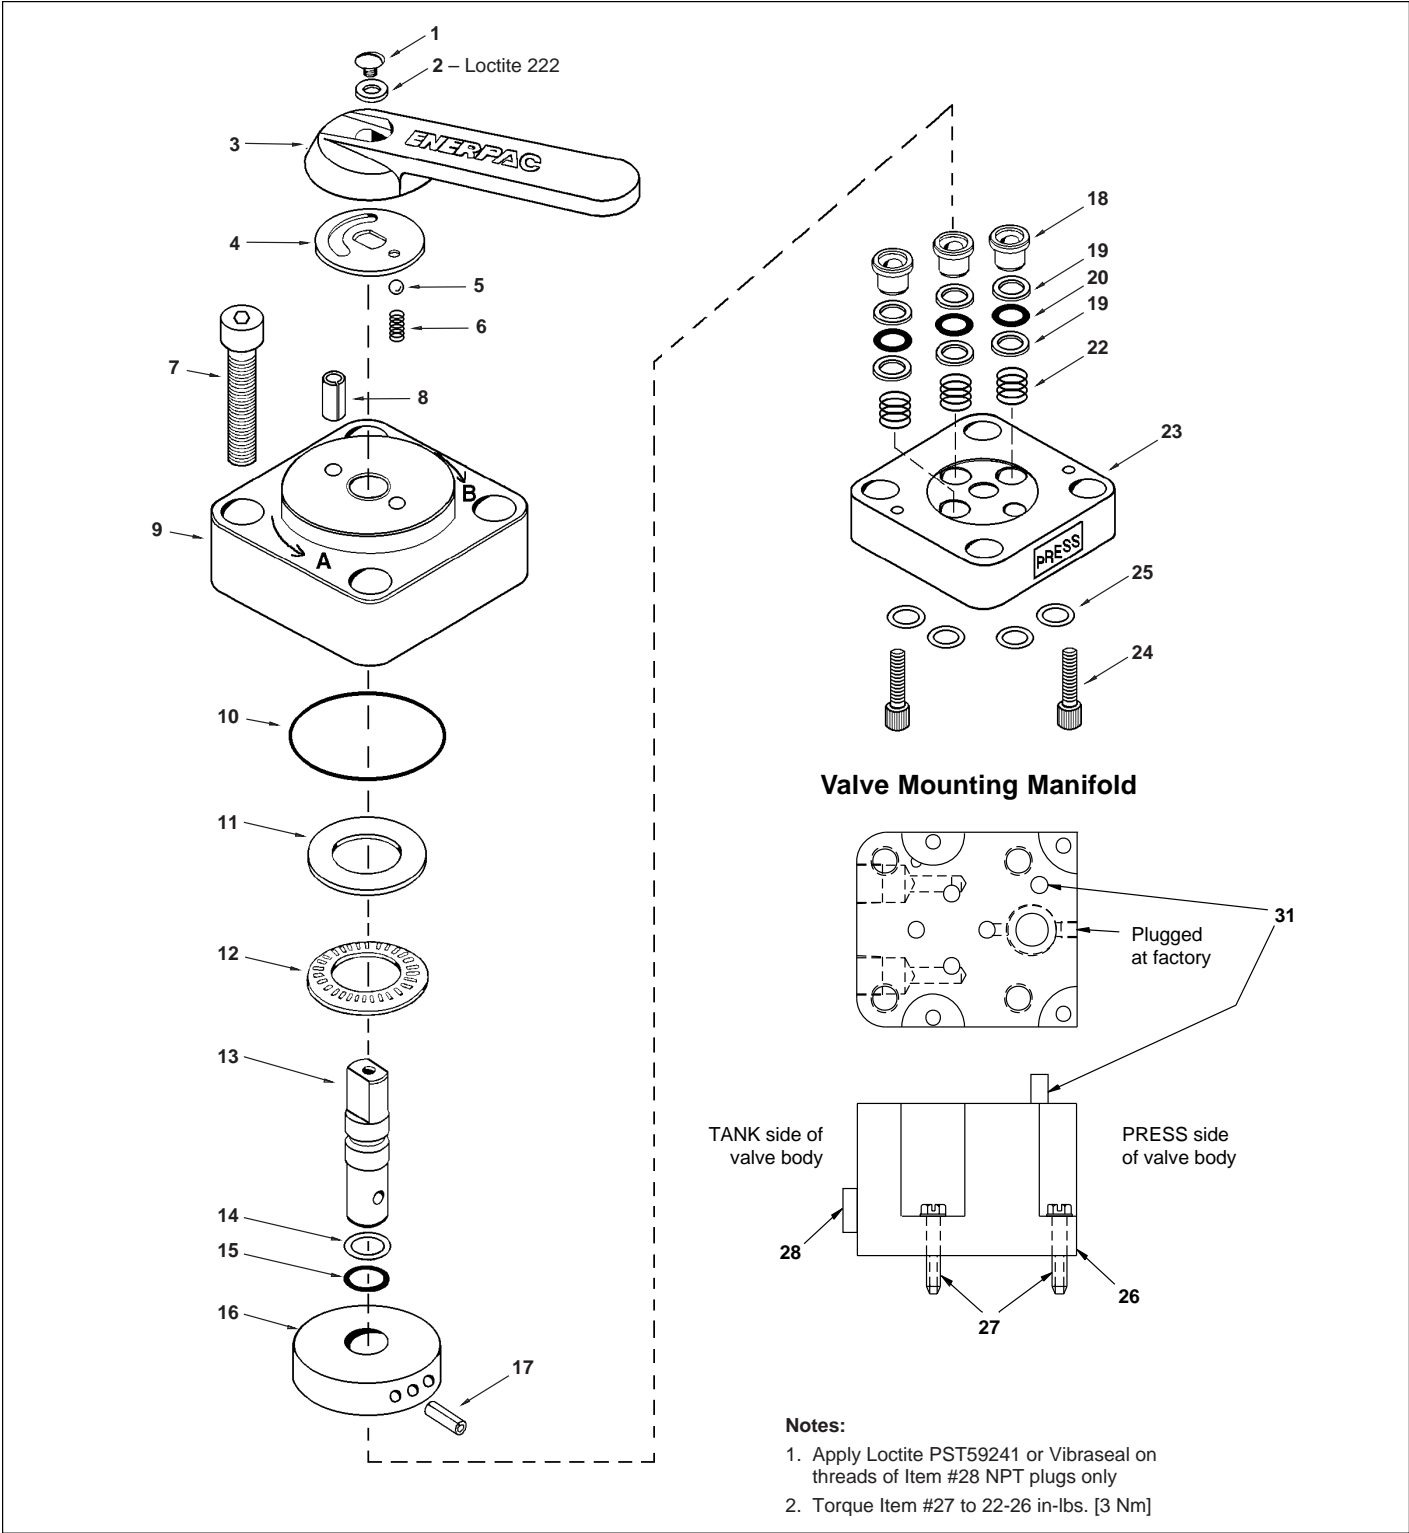

Figure 9
**Repair Parts List for Figure 9**